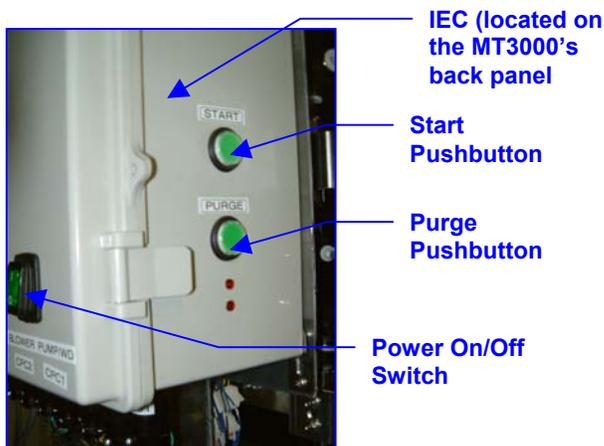

Figure 14: Location of the controls (on the IEC) Used during Purge Procedure
**Follow These Steps to Purge Your MT3000 for the First Time (refer to figures 14 & 15 below):**
***Step 1.*** Turn *On* Power switch on the IEC. See figure 14, page 18, for Power On/Off switch location.